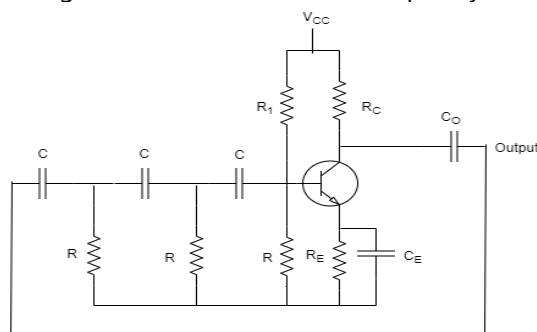

Figure 9: RC Phase shift oscillator
9.1 Design an RC phase oscillator with Resistance $R_1=R_C=10\text{ K}\Omega$, $R_E=1\text{ K}\Omega$, $R=10\text{ K}\Omega$, $C_E=C_C=1\text{ }\mu\text{F}$ and $C=10\text{ }\mu\text{F}$ for the circuit shown in figure.9 and determine the frequency of oscillation of the circuit.